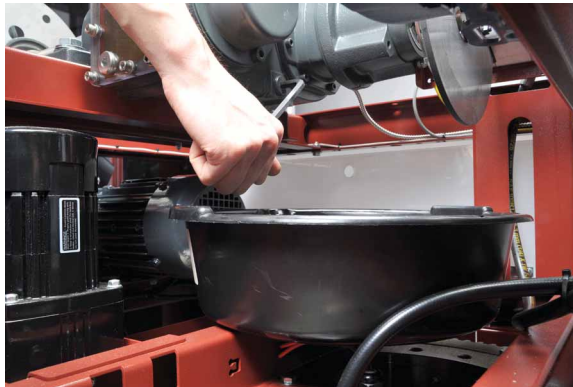

Figure 2-54. Removing the drain plug.
33. Take the 8 mm hex key and remove the drain plug, as shown in Figure 2-54.